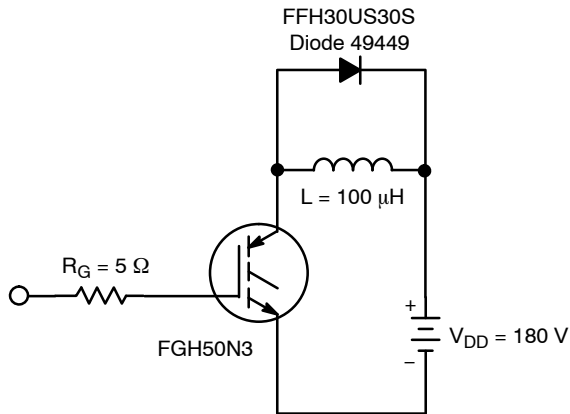

Figure 20. Inductive Switching Test Circuit
3. E_{ON2} is the turn-on loss when a typical diode is used in the test circuit and the diode is at the same T_J as the IGBT. The diode type is specified in Figure 20.